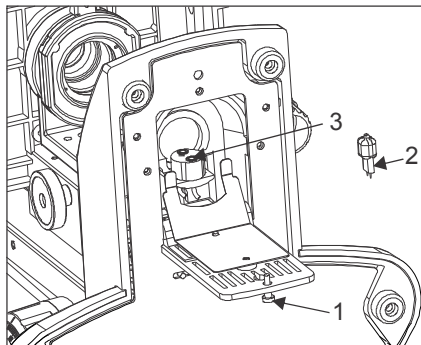

Fig. 13
1. Pull the lock knob (1) on the bottom to open lamp housing door (figure.13).
2. Hold the halogen bulb (2) without taking it out of the polyethylene bag so as not to taint the bulb with fingerprints and push the bulb into the pin holes on the socket (3). After attaching, remove the polyethylene bag.